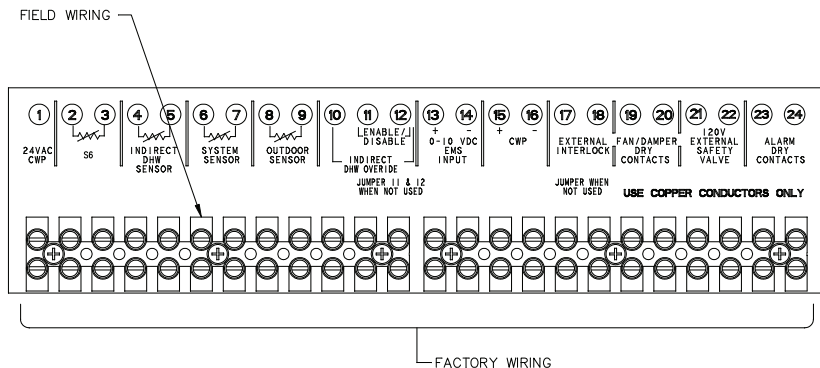

Fig. 33: Low Voltage Field Wiring
2. If using an Outdoor Sensor (option B-32), connect the sensor wires to the terminals marked OUTDOOR SENSOR (see Fig. 33). Caution should be used to ensure neither of these terminals becomes connected to ground.
3. Connect the FT_BUS wires to the PIM by pressing down on the slots with a small screwdriver and then inserting the wires into the holes. See Fig. 33.
3. Connect the system supply sensor to terminals 6 and 7 on the field wiring strip located on the Master PIM (See Fig. 33).
4. Connect the Outdoor sensor (if used) to terminals 8 and 9 on the field wiring strip located on the Master boiler (See Fig. 33).
5. Connect the Enable/Disable wiring to terminals 11 and 12 on the field wiring strip located on the Master boiler (See Fig. 33). This connection must be provided through dry contacts closure.
An alarm annunciator or light may be connected to the alarm contacts on the field wiring terminal strip. The Alarm Contacts are 3A rated dry contacts on a normally-open relay that close during fault or lockout conditions, and the maximum voltage across the contacts is 30 VAC or 30 VDC. See the Field Wiring as shown in Fig. 33.